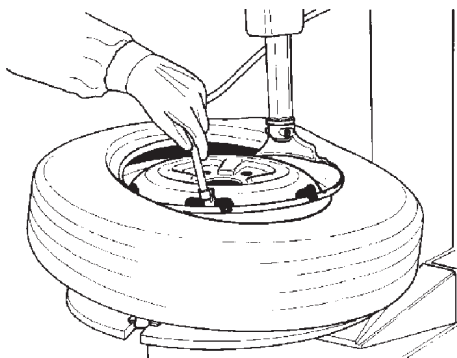

Fig. 5.1-3
D. Mount the first bead as described in section 4.2, point B. Put the tube inside the tire and connect the inflation air line to the tube valve to hold the tube in place. (Fig. 5.1-3). Mount the top bead following the directions above.